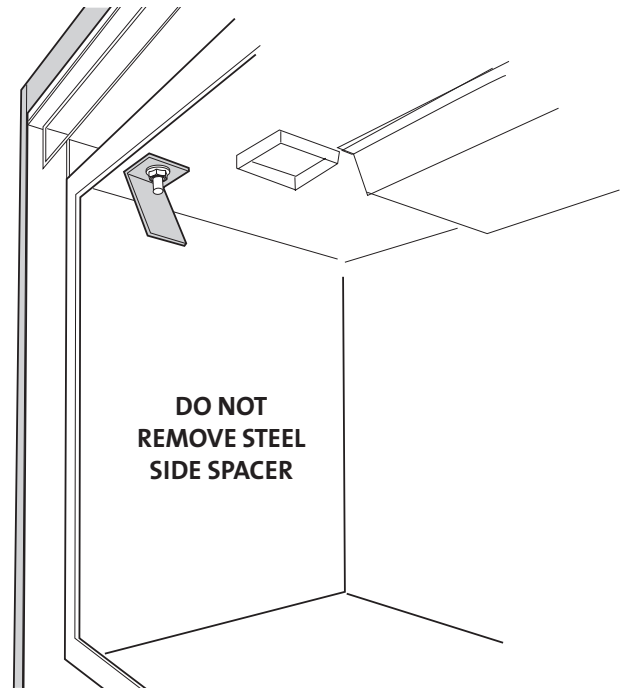

Figure 6.11. Panel Retainer Tab
4. Orient each Side panel with the textured side against the wall panel spacers. A small retainer tab is located at each side of the firebox ceiling near the front opening. Bend each tab out enough to engage with the upper edge of the glass panel. Fig. 6.11.